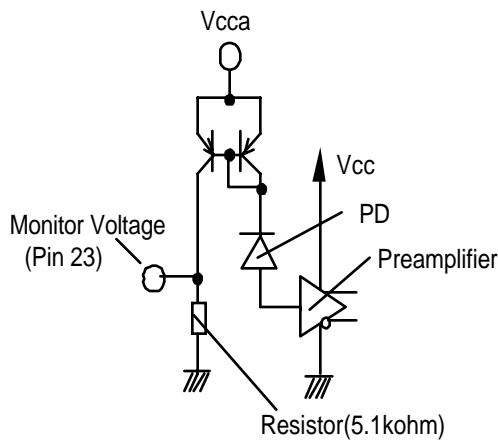

Figure 4 Input Power Monitoring Circuit
1. BER = 10^-10 2. Refer to Figure 4